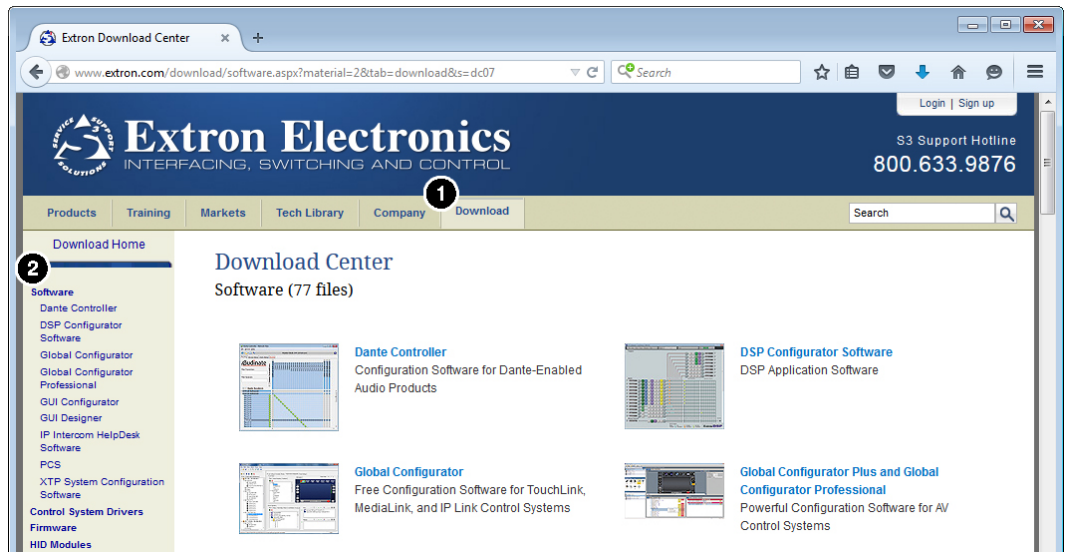

Figure 6. Software on the Extron Website
1. On the Extron website, click the **Download** tab (see figure 6, ①).
2. From the left sidebar, click the **Software** link (see figure 6, ②). A list of available software opens.
1. On the Extron website, click the **Download** tab (see figure 6, **1**, on the previous page).
2. From the left sidebar, click the **Software** link (see figure 6, **2**). A list of available software opens.